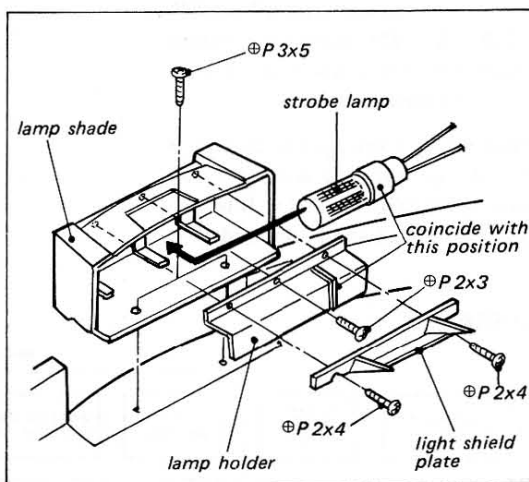

Fig. 2-10. Strobe lamp replacement
2. Remove the two screws securing the lamp shade to the turntable base shown in Fig. 2-10. This frees lamp shade.
4. Install a new lamp. Be sure that the glowing side (front) of the lamp is correctly positioned as shown in Fig. 2-10.